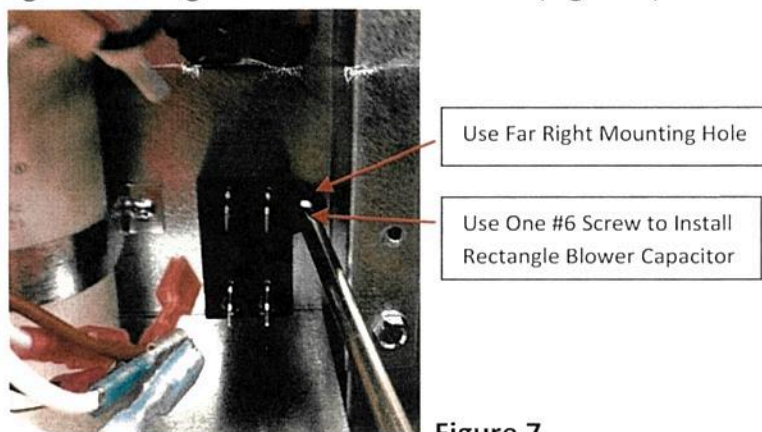

Figure 7
Step 7 – Install the provided rectangle blower capacitor with one #6 screw into the far right mounting hole in the electrical box (Figure 7).